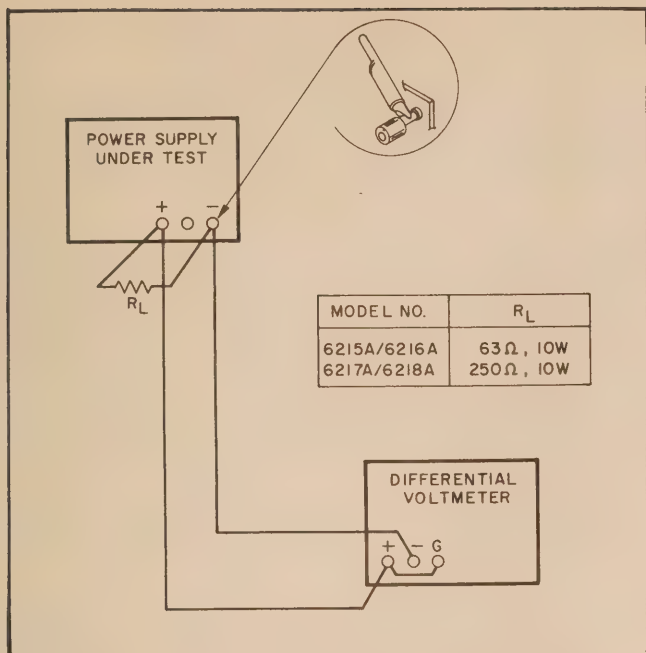

Figure 5-5. Load Regulation, Test Setup
- Connect test setup as shown in Figure 5-5.
- b. Connect test setup shown in Figure 5-5.